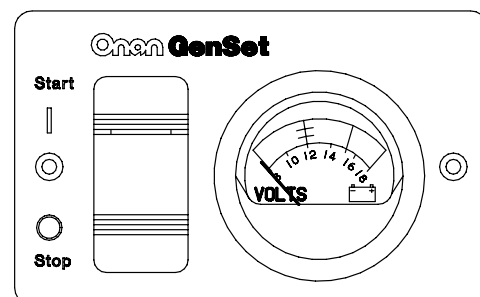

FIGURE 2-4. REMOTE SWITCH / DC VOLTMETER
- Remote switch with status indicator light and DC voltmeter (Figure 2-4).